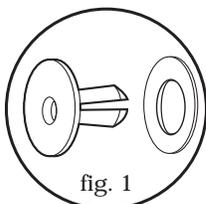

fig. 1
1. First put the roof plug washer on the roof plug. See (fig.1) Place facia panel (FPLC) to front roof structure. Locate the holes in the facia panel through roof structure and fix with roof plug w/washers. See Step 1.